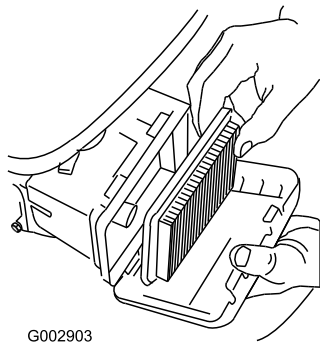

Figure 21
3. Remove the air filter (Figure 21).